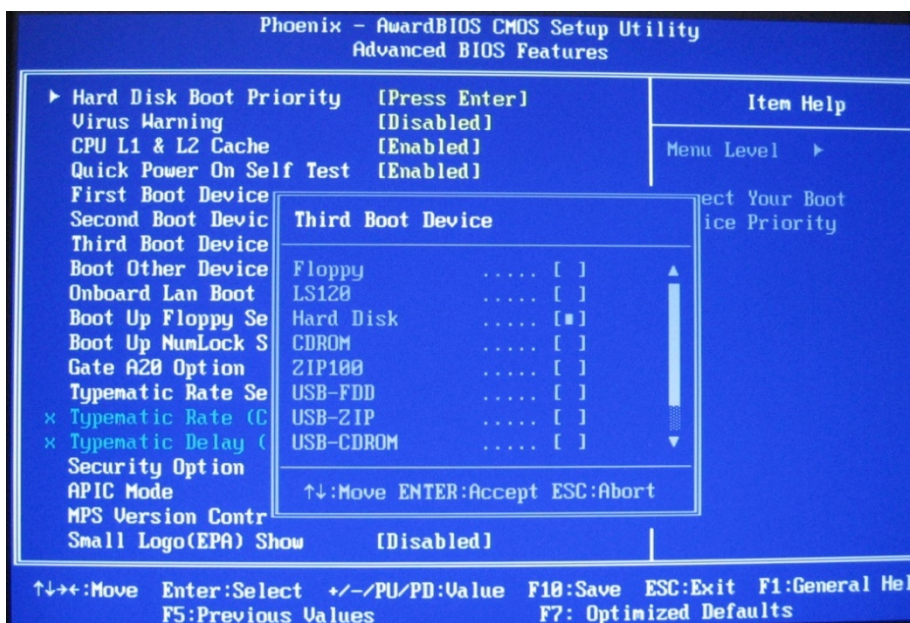

Figure 7-20 Third Boot Device Settings
10. On the **Third Boot Device Popup** select **Hard Disk**. Press **Enter**. (Figure 7-20).